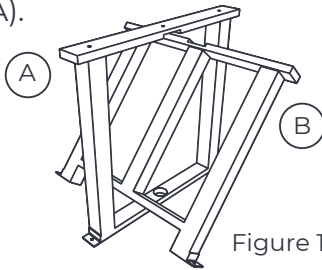

Figure 1
See Figure 1. Place leg connector (B) across and into table leg (A).